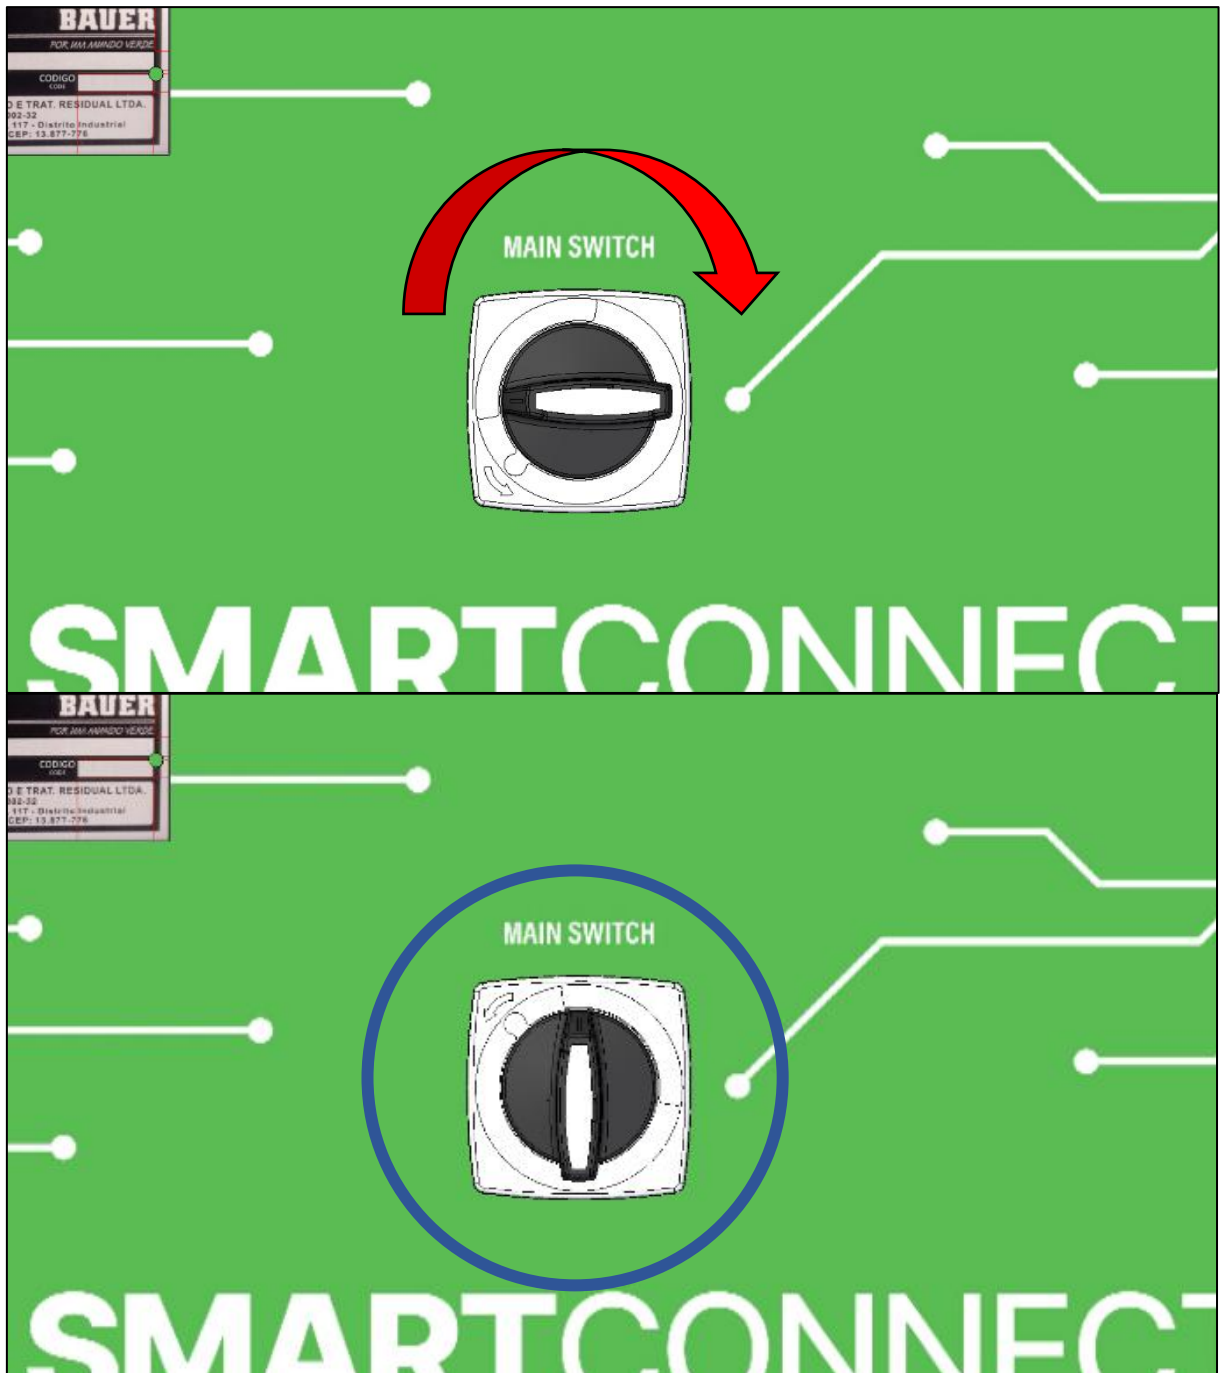

Figure 22 - Main Switch in the "ON" position.
- C. Close the cabinet's inner door and turn the Main Switch 90° to the right, as shown in Figure 22.